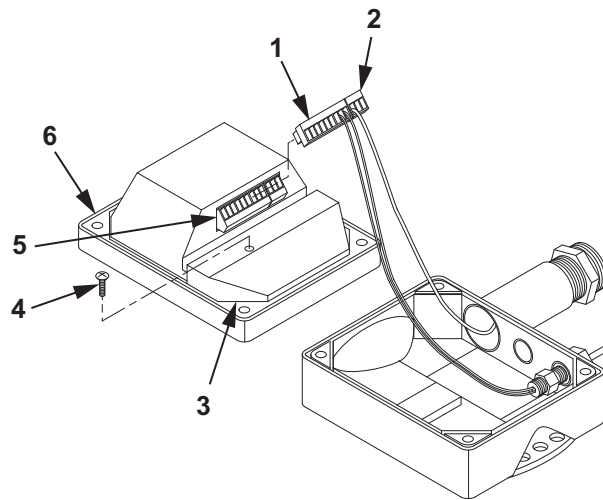

Figure 4. Tank Volume Meter Monitor Cable Connectors.
3. Install circuit board cover (Figure 4, Item 5) in volume meter (Figure 4, Item 6).
4. Install screw (Figure 4, Item 4) through circuit board cover (Figure 4, Item 5).
5. Connect cable connectors (Figure 4, Item 1 and 2) to connector (Figure 4, Item 3).